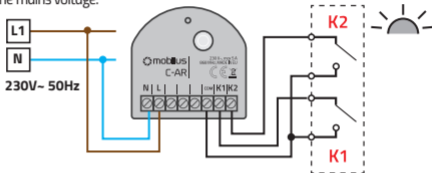

Fig. 5
2. Connect the **MOBILUS C-AR** module as shown - Fig. 5.